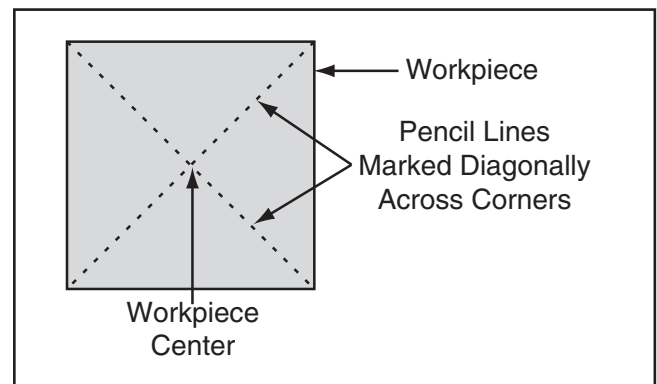

Figure 36. Workpiece marked diagonally from corner to corner to determine the center.
1. Find the center point of both ends of your workpiece by drawing diagonal lines from corner to corner across the end of the workpiece, as shown in **Figure 36**.